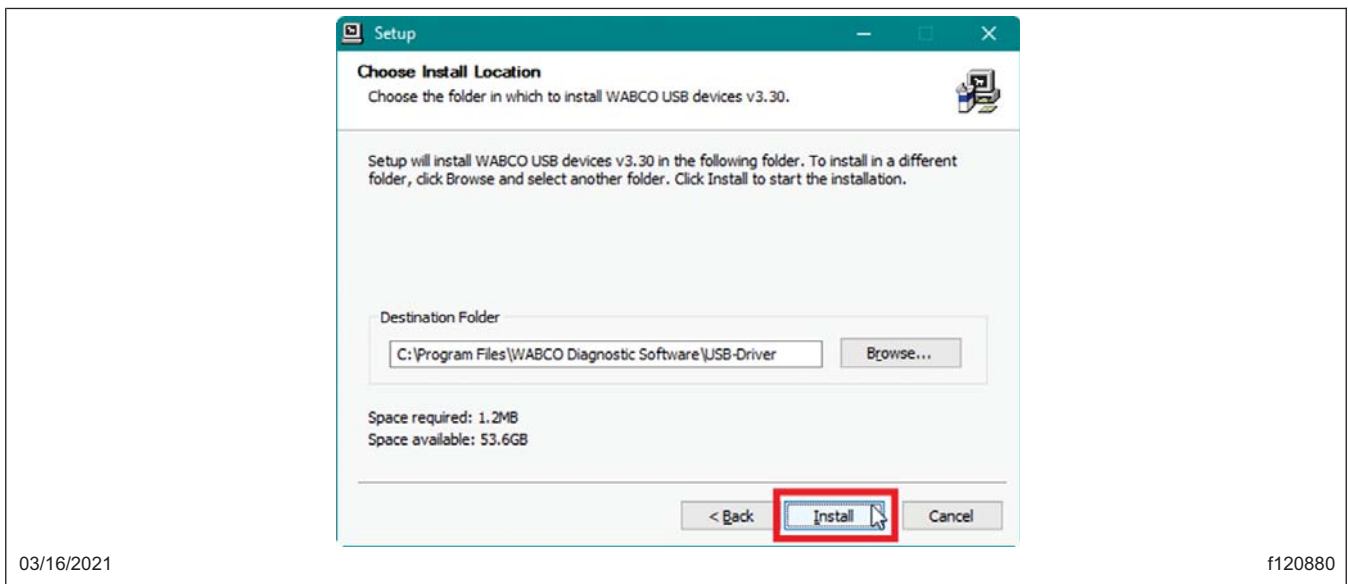

Fig. 20, Choosing the Install Location
7.14 In the 'Choose Install Location' window, select 'Install.' See Fig. 20. The setup program will install the files onto the local hard drive.